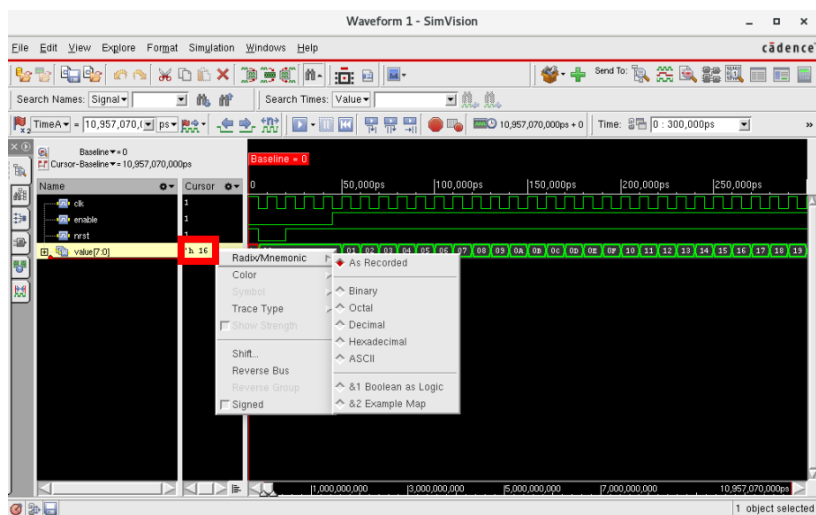

Figure 30: Waveform window: results
10. Zoom in on the results as shown in Figure 30. Are they as you would expect? SimVision expresses numbers by default as hexadecimal numbers. If you want them expressed in another base right click on the number in the red box in Figure 30. Now click on "Radix/Mnemonic" and select the base you want.